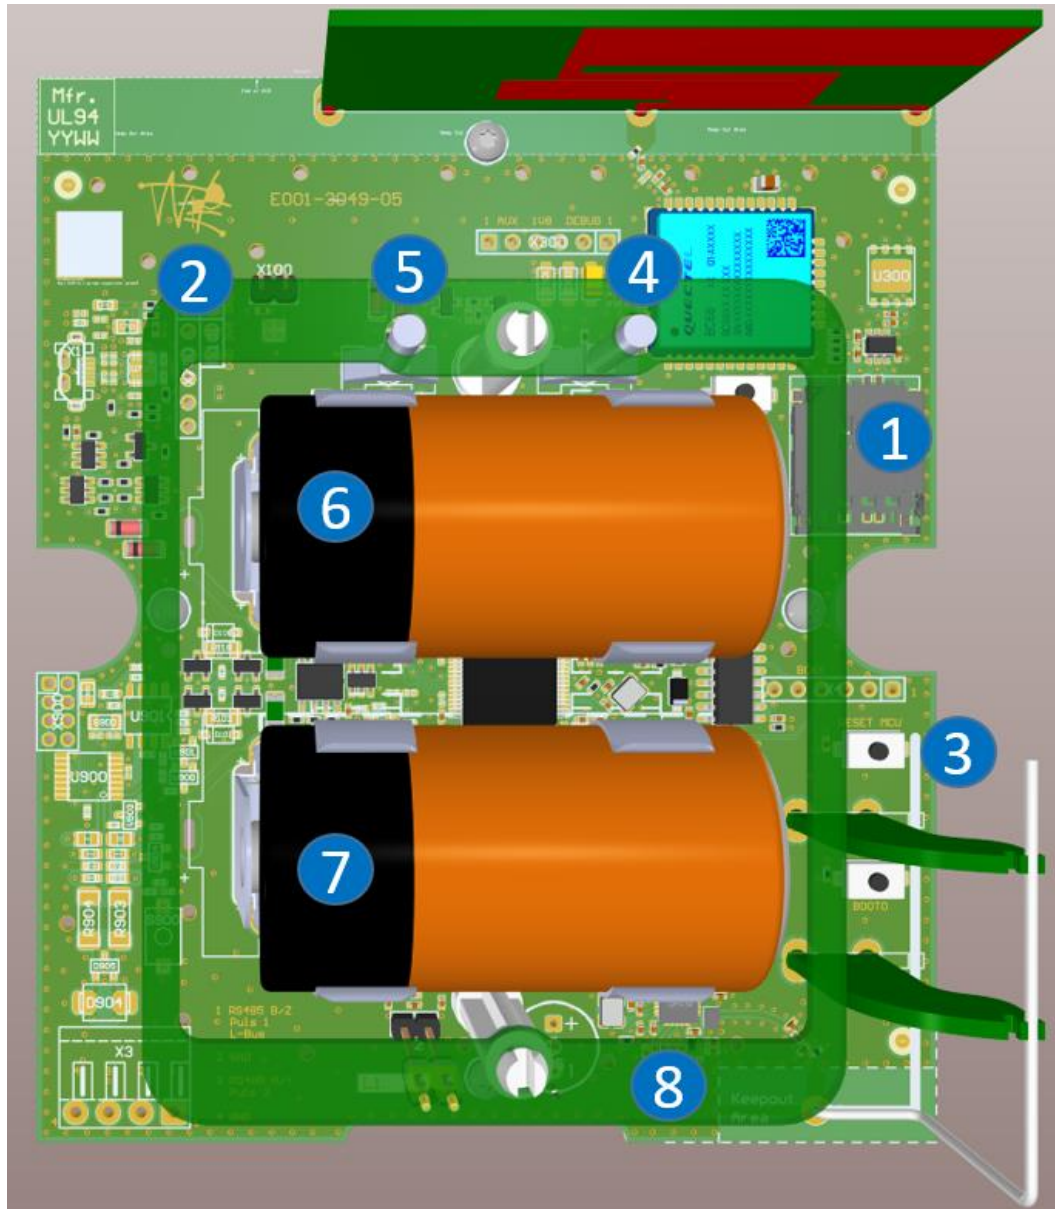

Figure 1: View on electronics
The batteries and the jumper are already fitted on delivery (see Figure 1). The device is operating in shipping mode, a low-power mode intended for transportation and storage of the device. Further details regarding the various operating modes of the device are explained in Part 2 of the instructions (see [1]).
- First disconnect the power supply by removing the jumper from the pin header, see Figure 1 pos. 2. Do not throw away the jumper, it is required to switch the device back on.
- The sim card holder is located at pos. 1 in Figure 1.
- To switch the device on, reinstall the previously removed jumper onto the pin header (Figure 1 Pos.2).
Remove jumper, press reset button of microcontroller (Figure 1 Pos. 3) and reattach jumper. If the error pattern persists, the device is defective or the batteries are discharged.
Perform another attempt for depassivation of the battery. Remove jumper, press reset button of microcontroller (Figure 1 Pos. 3) and reattach the jumper. This process may need to be repeated several times, depending on how strongly the batteries are passivated. The degree of passivation depends, among other things, on the battery model, storage duration and storage conditions.